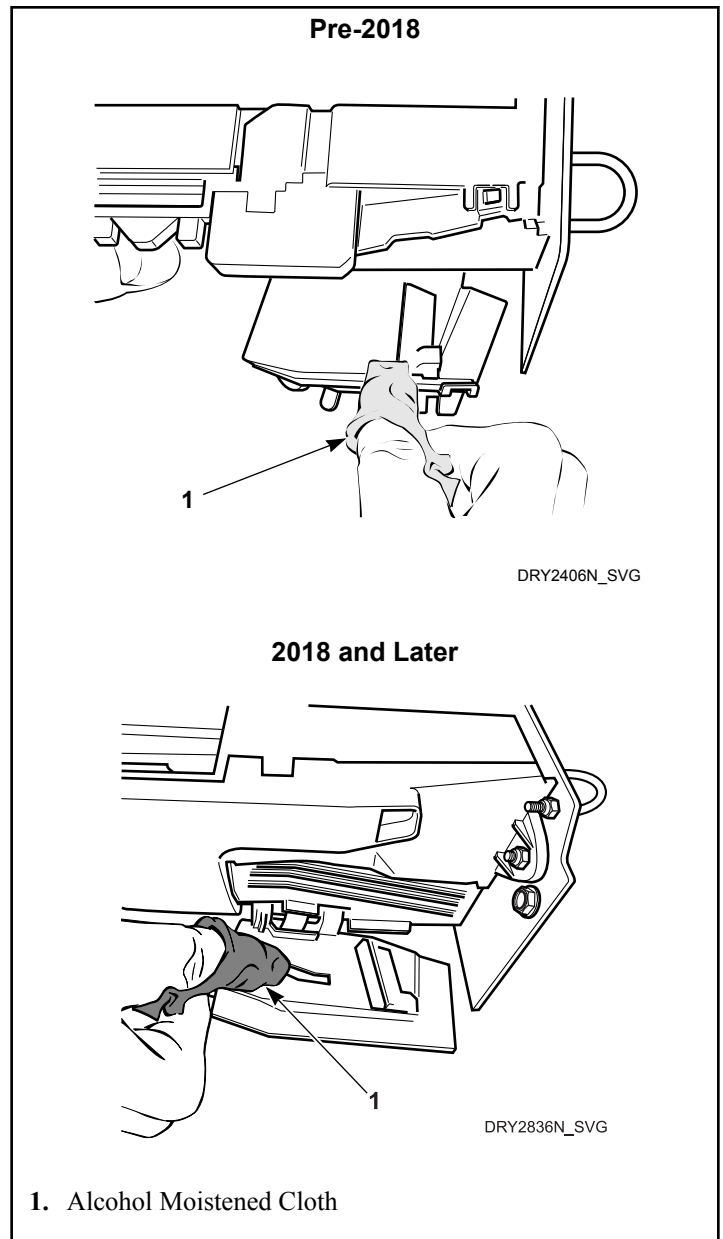

Figure 23
5. Clean residue from coin rail with an alcohol moistened lint-free cloth. Refer to *Figure 23*.